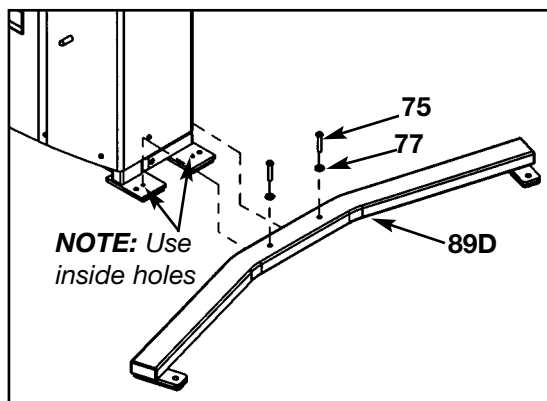

Figure 4
**4. Installing stabilizers** (see steps 4A - 4D and Figure 4).
- B. Align one of the stabilizers with the holes in the frame. See Figure 4.
- C. Secure the stabilizer using two BHSCS .375-16 x 2.00 (black, #75) and two black washers .3125 (#77) as shown in Figure 4.